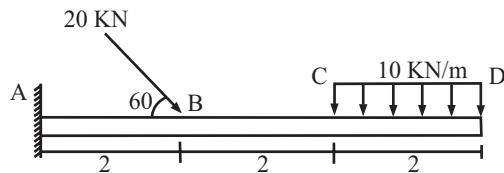

Fig 8
- Q.8.** A cantilever is shown in fig 8. Draw the BMD and SFD.